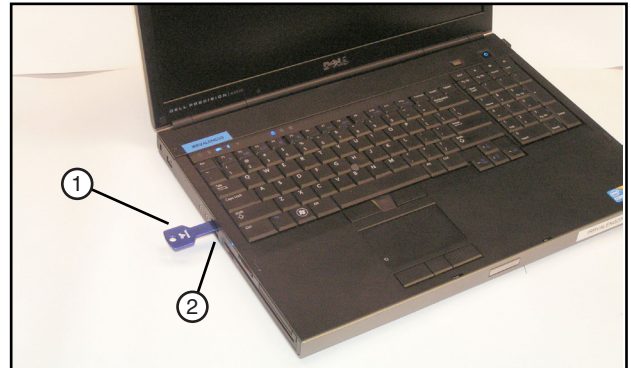

Figure 31-1 1. Flash Drive
- Insert a USB Flash Drive in the laptop USB port. See figure 31-1.